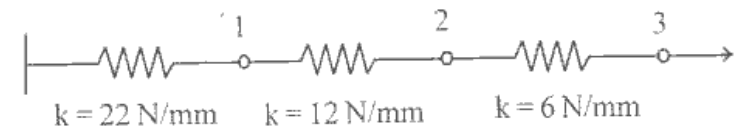

Fig.1
2. a) Analyse the continuous beam shown in Fig.1 by flexibility method also draw SF and BM diagram. Assume EI is constant. The downward settlement of support B and C in Kn-m units are $200/EI$ and $100/EI$ respectively. Assume EI constant